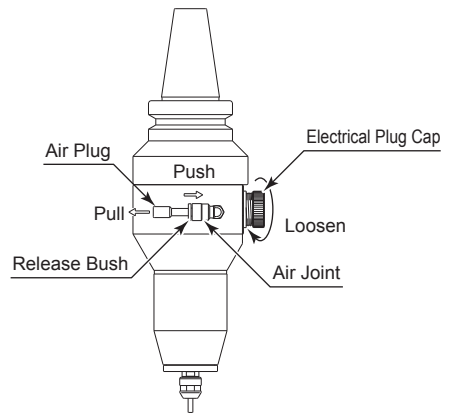
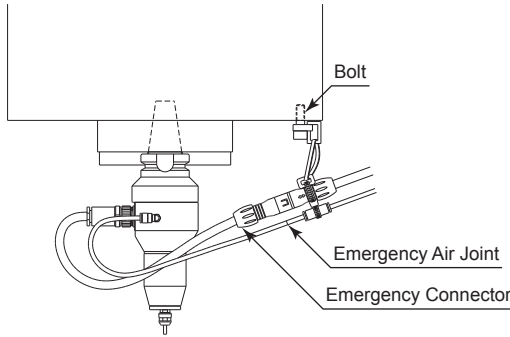

Fig. 15
Fig. 18
- DO NOT separate the Emergency Connector manually. It is not a quick disconnect connector, it is an Emergency System : If the machining center's main spindle is rotated by mistake, the Emergency Connector on the motor cord will separate. If the hanger for the Emergency Connector is too loose, the Emergency Connector can slip out of position during high speed rotation and cause the Emergency System to malfunction. Please check the integrity of the Emergency Connector and suspension properly prior to use (SEE Fig. 18).
- ① Insert and Clamp the Brushless Motor Spindle into the machining center's main spindle.
- ② Remove the Electrical Plug Cap from the Brushless Motor Spindle by turning it counterclockwise (Fig. 15).
- ③ Carefully remove the Air Plug from the Brushless Motor Spindle's Air Joint by pressing in the Release Bush in the quick disconnect while pulling on the end of the Air Plug (Fig. 15).
\* Route the Motor Cord and Air Hose and hold them securely with enough slack to allow for machines' axis travel (Do not pinch and severely bend the air hose) (SEE Fig. 18).